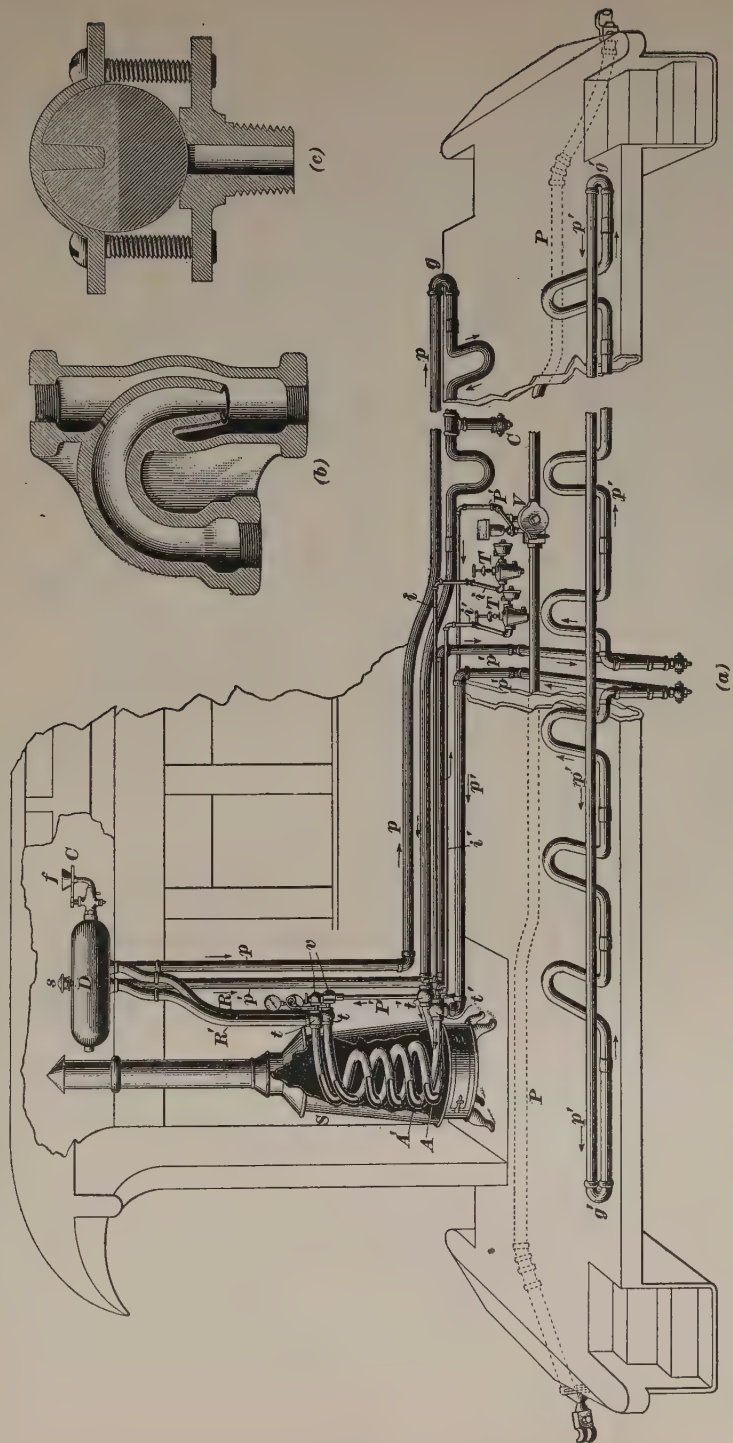

FIG. 15
36. System 1.—In this system, the heating is done directly by hot water that is heated by steam from the engine in a Baker heater *S*, Fig. 15. A compound, or duplex double-pipe, coil, however, is placed in the heater instead of the regular Baker coil. This duplex coil is made up of two 2-inch pipe coils *A* and *A'*, inside each of which is a coil of $\frac{3}{4}$ -inch pipe, as shown in Fig. 15, where part of the heater casing *S* is shown removed so as to expose the coils to view, the pipes composing the larger of which are also shown partly broken away, exposing the $\frac{3}{4}$ -inch inner coils. These coils are fitted at the ends with special **T** pieces *t*, *t'*. In the upper openings of the **T** pieces *t* are screwed the pipes *R*, *R'* that lead to the expansion drum *D*, while the lower **T** pieces *t'* connect with the hot-water pipes that run around the car.
The course of the steam is as follows: Steam is taken from the train pipe *P* at the train valve *V*, which is situated underneath the car, passing thence through the pipe *P'* to a point near the top of the heater *S*, where it makes connections with two steam valves *v*, each of which controls one of the $\frac{3}{4}$ -inch pipe coils that are inside the 2-inch coils *A*, *A'*. From the upper side of the **T** pieces *t*, *t* run the hot-water risers *R*, *R'* that enter the sealed jet fittings that are connected, at their upper sides, to the expansion drum *D*. Hot-water outflow pipes *p* and *p'* run from the bottom of these sealed jet fittings. These fittings, which are called accelerators, are shown in section in Fig. 15 (*b*). When the hot
38. System 2.—Another method of hot-water heating sometimes used is illustrated in Fig. 16. It is very similar to the circulating system already illustrated in Fig. 15, differing therefrom principally in having only a single supply valve and trap, but having two expansion drums instead of one. Other differences in the equipment will be evident from the figure.
as in Fig. 15. When the valve v is opened, steam passes into both the inner coils in the heater S , through the two pipes a, a' . The water is heated in both coils simultaneously, and the condensation goes down the pipes d, d' and is carried off through the pipe i to the trap T . The risers R, R' pass up to the sealed jets F, F' , as in Fig. 15, but each pipe goes to its own expansion drum in this case, instead of both going to the one drum. From the sealed jets, run the pipes p and p' . In the illustration, the car is supposed to be broken in two places, and the end portions brought close together, thus showing the apparatus on a larger scale than would otherwise be possible. The course of hot-water pipe p is readily traced; it runs to the end of the car and makes the return bends shown, and then comes back to its T piece t' , by which it enters the 2-inch coil at the bottom of the heater. The pipe p' takes the course shown, turns downwards to the cross-over b , and passes to the other side of the car, returning thence through the other cross-over b' , as shown by arrows, and so to its T piece and into the bottom of the other 2-inch coil.